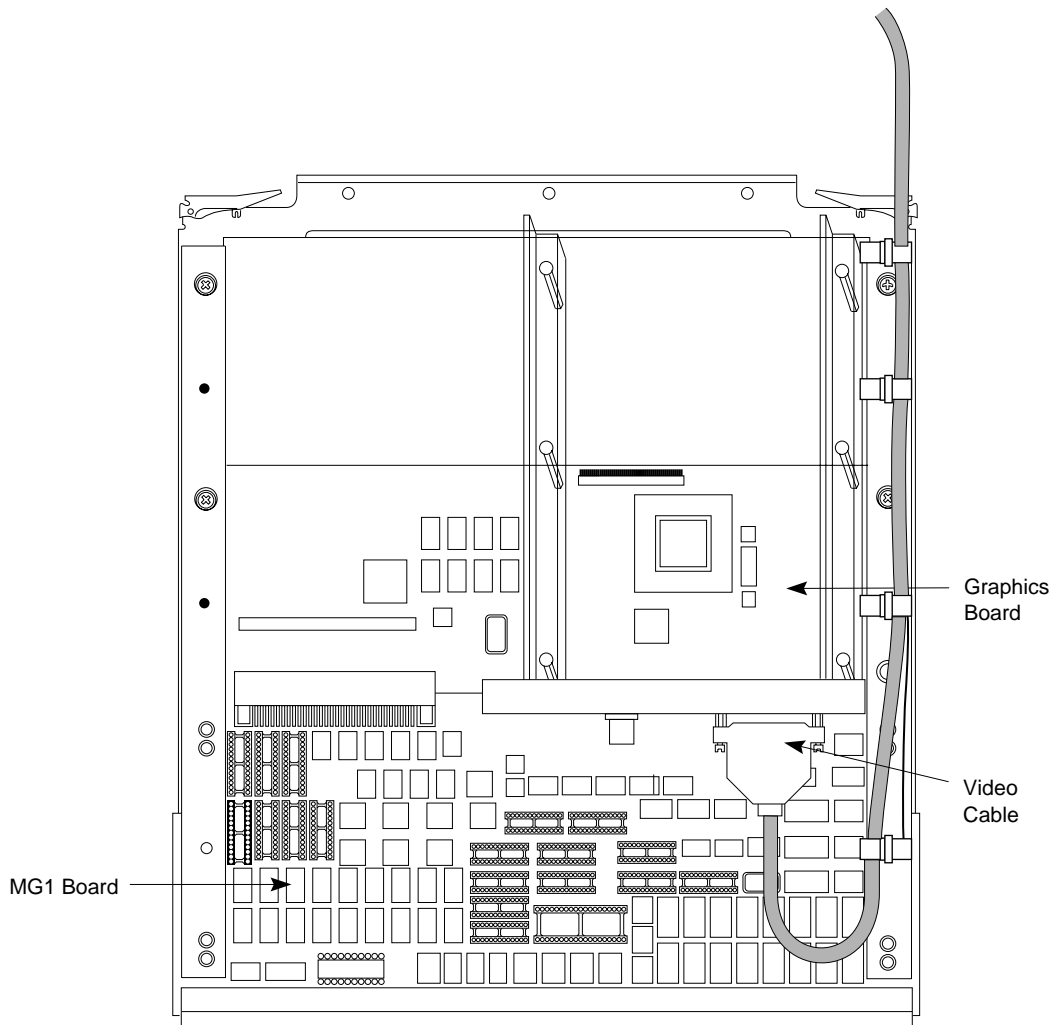

Figure 1-1 Entry Graphics Board Assembly
- Figure 1-1** Entry Graphics Board Assembly1-3
The Entry graphics board is inserted in and supported by the MG1 board, which is in turn inserted in the GM slot of the Crimson card cage (slot 9). The MG1 board is an adapter board that connects the Entry graphics board to the Crimson backplane. The Entry graphics board uses the Graphics I/O (GIO) bus, while the Crimson system uses the MP bus. The MG1 matches the data rates of the MP and GIO buses and allows the GIO-based Entry board to accept inputs through the high-speed 3-way transfer of the Crimson bus. The Entry graphics/MG1 board assembly is shown in Figure 1-1.